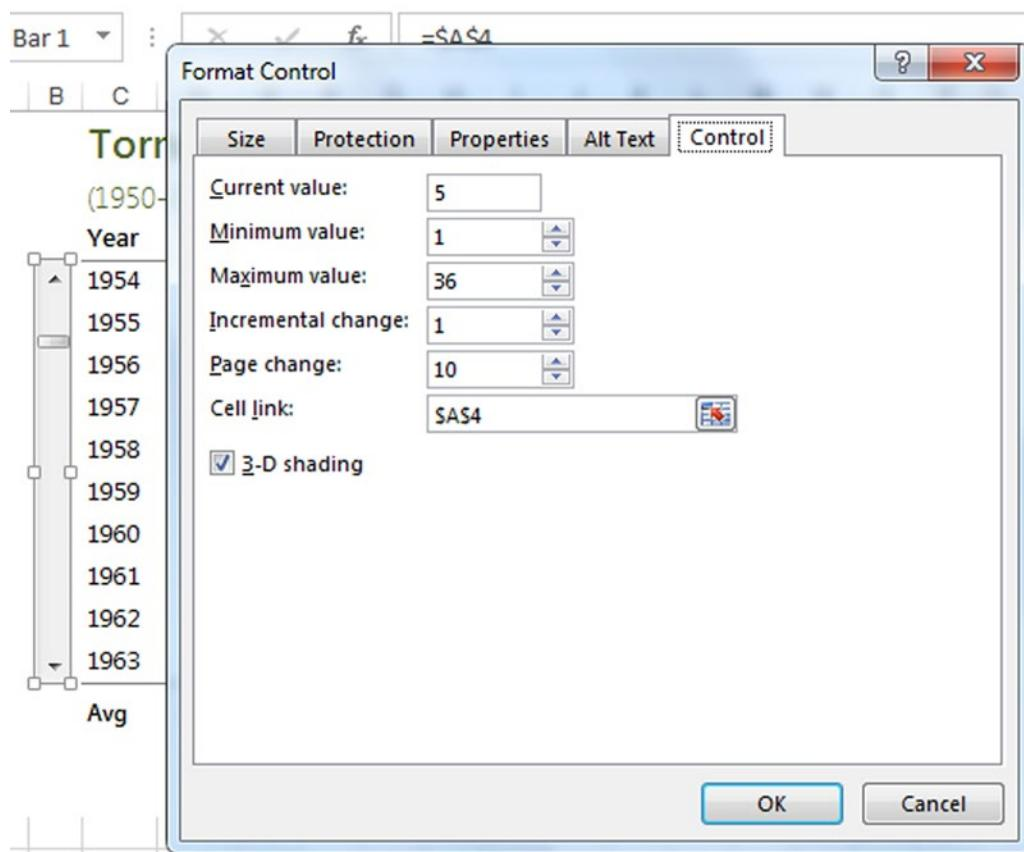

Figure 16-31. The Format Control dialog box
8. Finally, set the Minimum Value and Maximum Value fields of the scroll bar (see Figure 16-31).